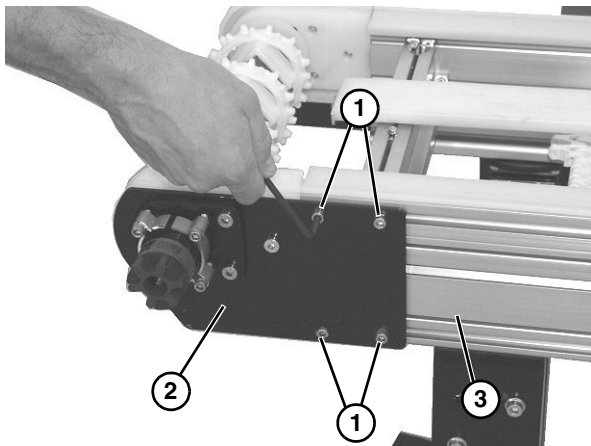

Figure 24
2. Loosen the four socket head screws (**Figure 24, item 1**). Repeat on opposite side.
3. Remove the drive tail assembly (**Figure 24, item 2**) from the frame (**Figure 24, item 3**).